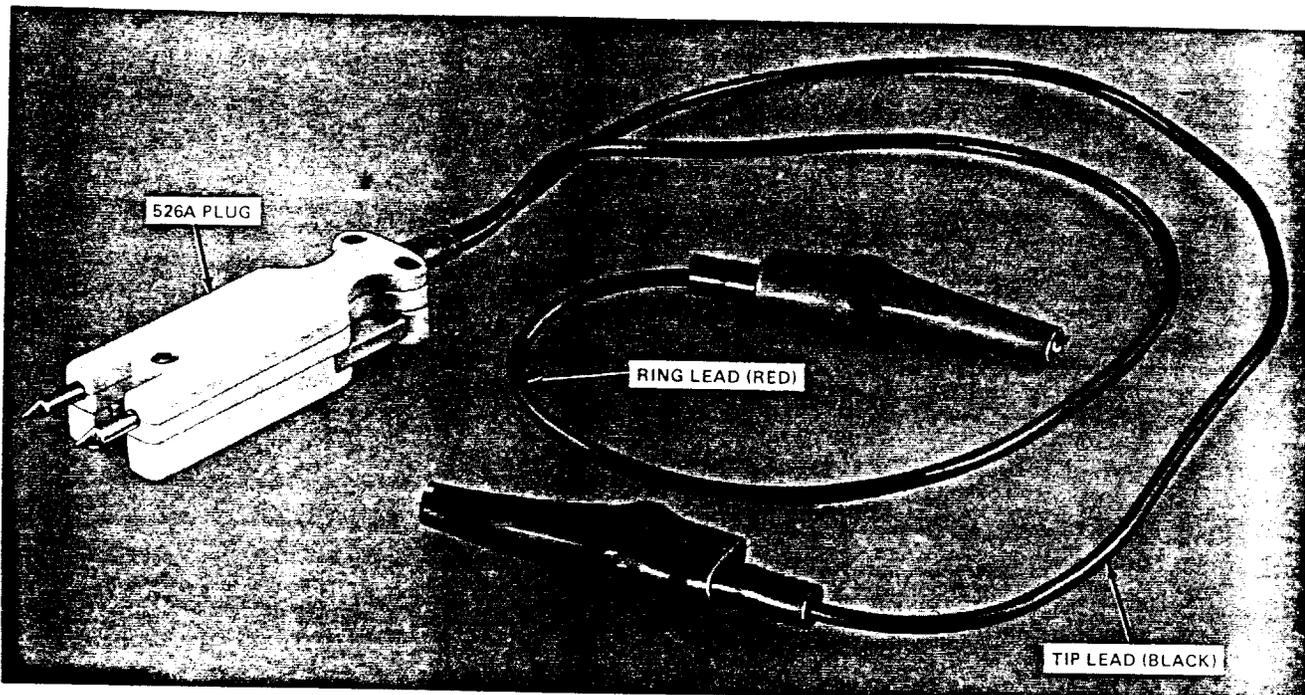

Figure 42. P2FL Test Cord
9.07 The P2FL test cord (Figure 42) is used to short the tip and ring or to ground the tip and/or ring of an individual cable pair by inserting the plug end into the test points of a 4C-type protector unit on the 307-type connector.